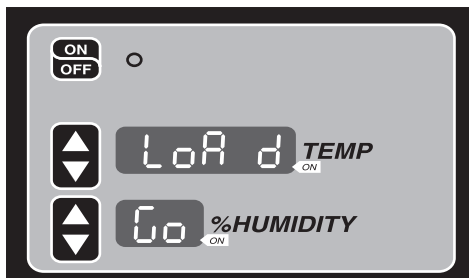

Fig. 16
6. Press either TEMP UP or TEMP DOWN arrow until "LoAd" is displayed in the TEMP display (Fig. 16).